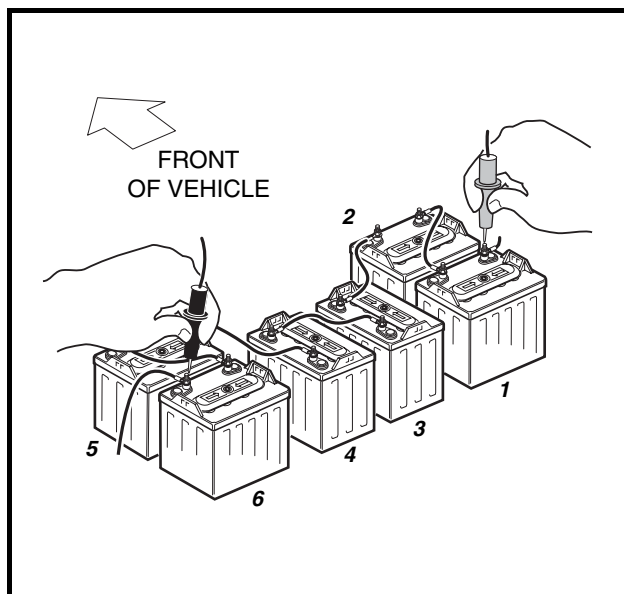
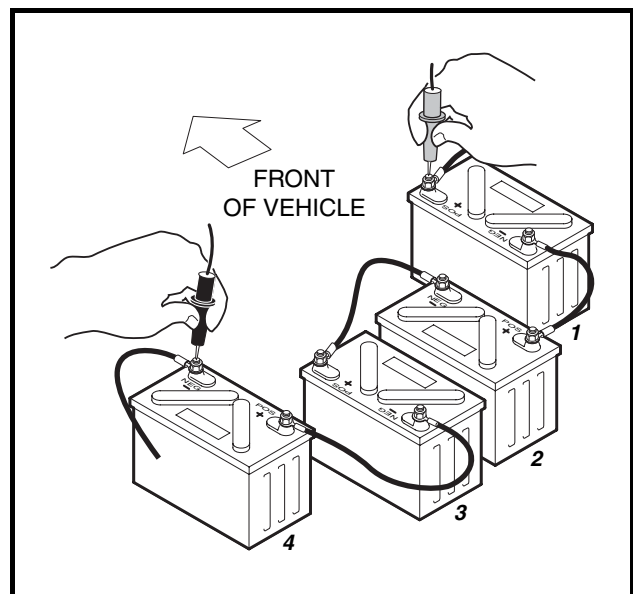

Figure 11-5 Battery Voltage Check - IQ System - Turf 1 and Carryall 1
Figure 11-6 Battery Voltage Check - IQ System - DS and DS Villager 4
1. With batteries connected and using a multimeter set to 200 volts DC, place red (+) probe on the positive (+) post of the first battery in the series and the black (–) probe on the negative (–) post of the last battery in the series (**Figure 11-5, Page 11-13**) and (**Figure 11-6, Page 11-13**). The multimeter should indicate at least 48 volts with the batteries fully charged. If not, check for loose battery connections or a battery installed in reverse polarity. Refer to Section 14 – Batteries, for further details on battery testing.